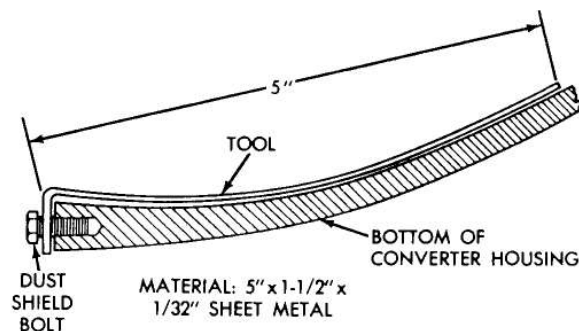

Fig. 4—Leak Locating Test Probe Tool
(1) Remove torque converter housing dust shield.
(2) Clean the inside of torque converter housing (lower area) as dry as possible. A solvent spray followed by compressed air drying is preferable.
(3) Fabricate and fasten test probe (Fig. 4) securely to convenient dust shield bolt hole. Make certain torque converter is cleared by test probe. Tool must be clean and dry.
(4) Run engine at approximately 2,500 rpm with transaxle in neutral, for about 2 minutes. Transaxle must be at operating temperature.
(5) Stop engine and carefully remove tool.